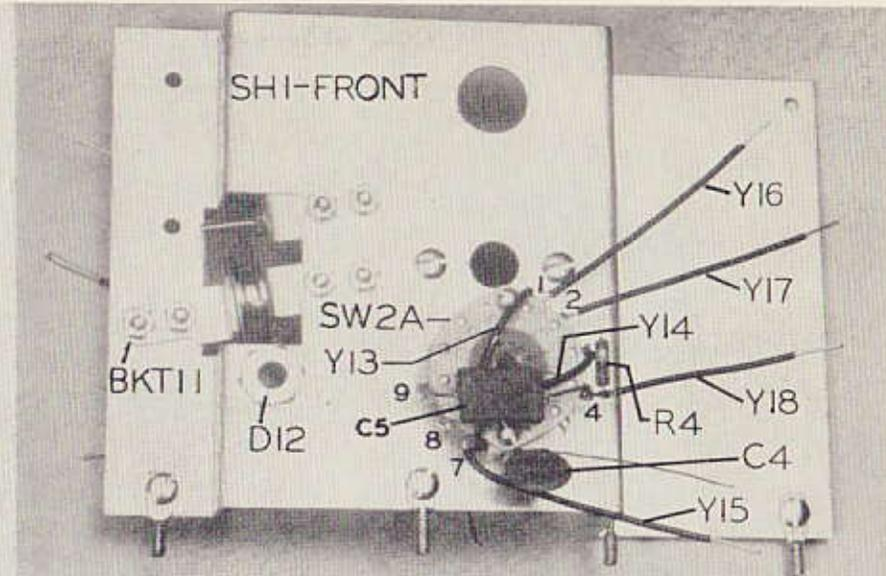

FIG. 1B OSCILLATOR SHIELD-FRONT
- (2) Connect the 2 1/2" lead on contact 4 of SW2B to the teardrop just mounted, as directly as possible, while clearing transformer, T2, and the condenser mounting board. Remove any excess lead.
- (3) Temporarily connect the 4700 ohm, 2 watt, resistor between the teardrop mounted in step (2) and the third pin from the top of L2B (lower terminal of the upper coil) by solder, tacking the leads of the resistor at the terminals.
- (4) Connect and solder the 6800 ohm 2 watt resistor between the second terminal from the bottom of L1, the oscillator coil, and contact 10 of the oscillator switch wafer SW2A (see Figure 1B). The resistor should be between the wafer and the shield, SH1.
- (9) Mount the coil just made over the flexible trimmer shaft between contact 11 (see Figure 1B for contact numbering) of the oscillator wafer SW2A and the second pin from the top of the oscillator coil (lower terminal of the upper winding), L1. Remove the 6BH6 speech amplifier and oscillator tubes to facilitate this connection. Solder the coil form leads at both terminals. Recheck the oscillator tuning setting O_{40} . It should now be within 4 divisions of B'_{40} . If a closer setting of O_{40} is desired, remove the coil and adjust the number of turns to bring the oscillator setting O_{40} closer to the buffer setting B_{40} .
- (10) Realign the ganged condensers at their fully meshed position and tighten the coupling, D19, setscrews securely.
- (11) The operating and antenna tuneup of 40 meters will be essentially the same as that of 75 meters described in part 7e on page 15 of this Operation Manual.